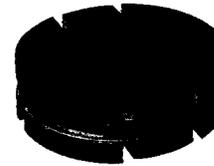

Figure 39 — Three-Section End Plate
17.01 Optional three-section end plate allows for the addition of extra cables on 9-1/2" diameter Splice Cases. A variety of cable diameters can be accommodated, including three 3.0" cables. (See charts Figure 39 and 39A)